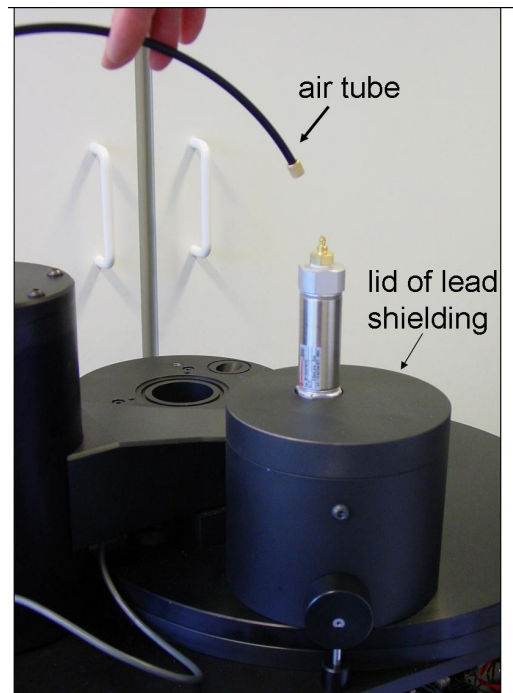

Figure 4.11: Removing the air tube.
1. Remove the plastic air tube (Figure 4.11). If the irradiator module is fitted with an aluminium helmet (new models) remove it. Then remove the lid of the lead shielding